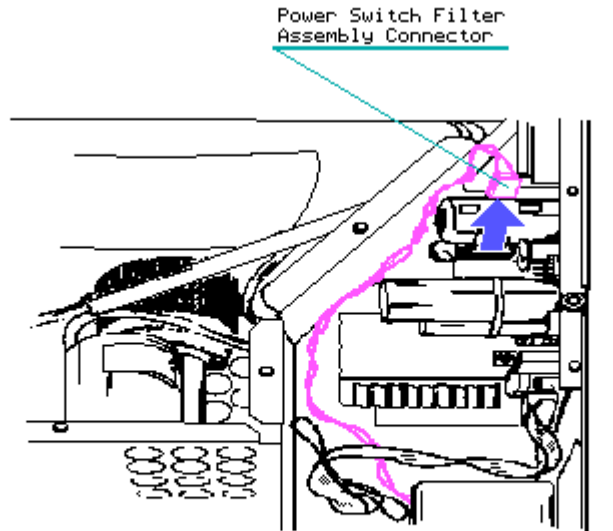

Figure 7.8-24. Disconnecting the Power Switch Filter Assembly Connector from the Power Supply Assembly
5. Disconnect the power switch filter assembly connector from the power supply assembly (Figure 7.8-24).